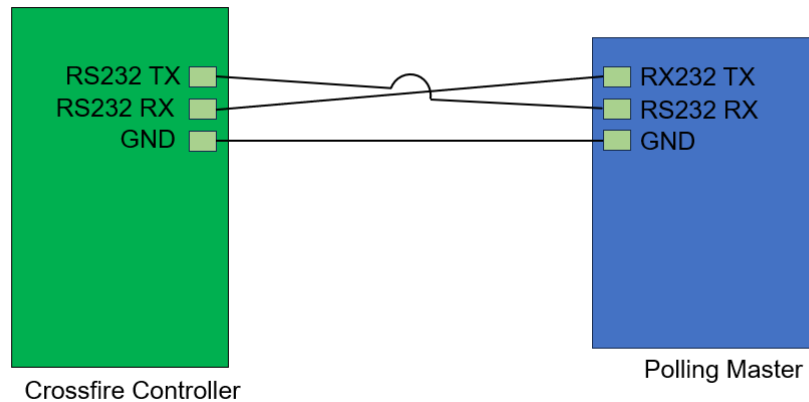

Figure 2: Wiring Diagram for RS232 Communications
- Wire three, gauge 20, single strand wires as shown in figure 2